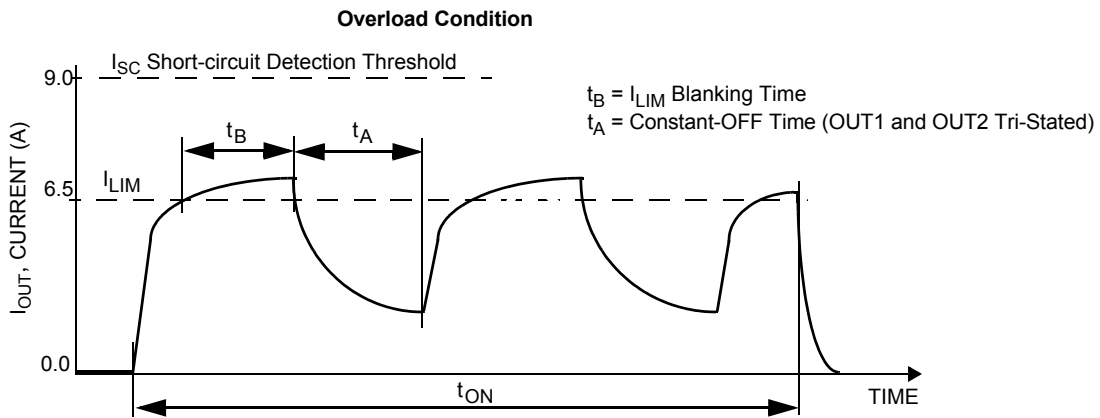

Figure 7. Current Limit Blanking Time and Constant-OFF Time
28. Load currents ramping up to the current regulation threshold become limited at the  $I_{\text{LIM}}$  value (see Figure 7). The short-circuit currents possess a  $di/dt$  that ramps up to the  $I_{\text{SCH}}$  or  $I_{\text{SCL}}$  threshold during the  $I_{\text{LIM}}$  blanking time, registering as a short-circuit event detection and causing the shutdown circuitry to force the output into an immediate tri-state latch-OFF (see Figure 8). Operation in Current Limit mode may cause junction temperatures to rise. Junction temperatures above  $\sim 160^\circ\text{C}$  will cause the output current limit threshold to "fold back", or decrease, until  $\sim 175^\circ\text{C}$  is reached, after which the  $T_{\text{LIM}}$  thermal latch-OFF will occur. Permissible operation within this fold back region is limited to non-repetitive transient events of duration not to exceed 30 seconds (see Figure 9).